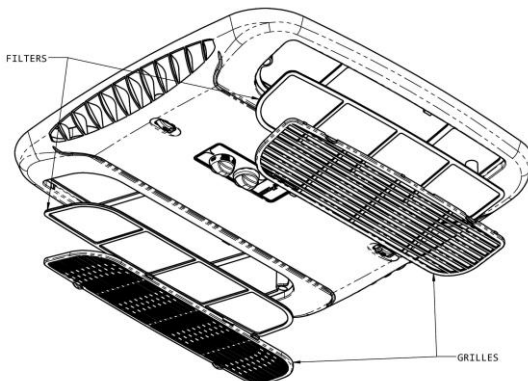

Figure 2
3. Re-install the filters and grilles in the ceiling assembly as shown in Figure 2.